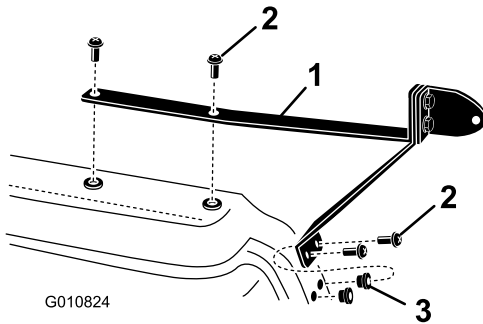

Figure 8
9. Install a nut insert into each of the drilled holes (Figure 8).
10. Secure the upper and lower mirror brackets to the nut inserts using 4 pan-head screws (1/4 x 1 inch) as shown in Figure 8.